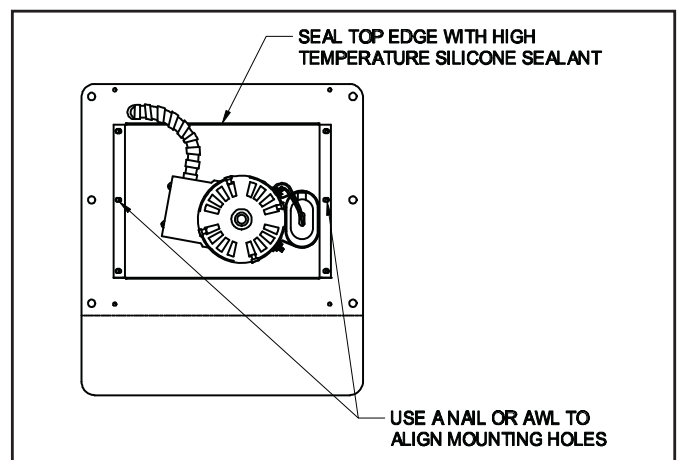

Figure 15
2. Using two nails or awls, align the two center holes of the motor mount bracket and cover plate. Locate the motor assembly into position by sliding the assembly over the mounting holes in the front plate. Use the nails or awls to hold the assembly in position. Secure motor assembly into position at the four corners, then secure center two holes. (See Figure 15)